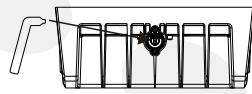

figure 3.1
1. Take the lamp out of the packing box, take out the handle configured in the packing box and insert it into the slot of the knob. (figure 3.1)